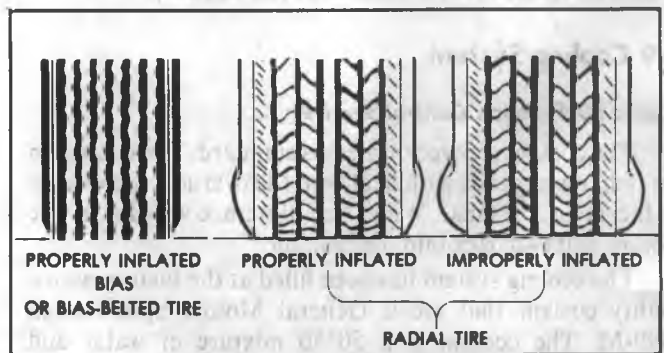

Fig. OB-13--Properly Inflated Tire
**Inflation Pressure (Fig. OB-13)**